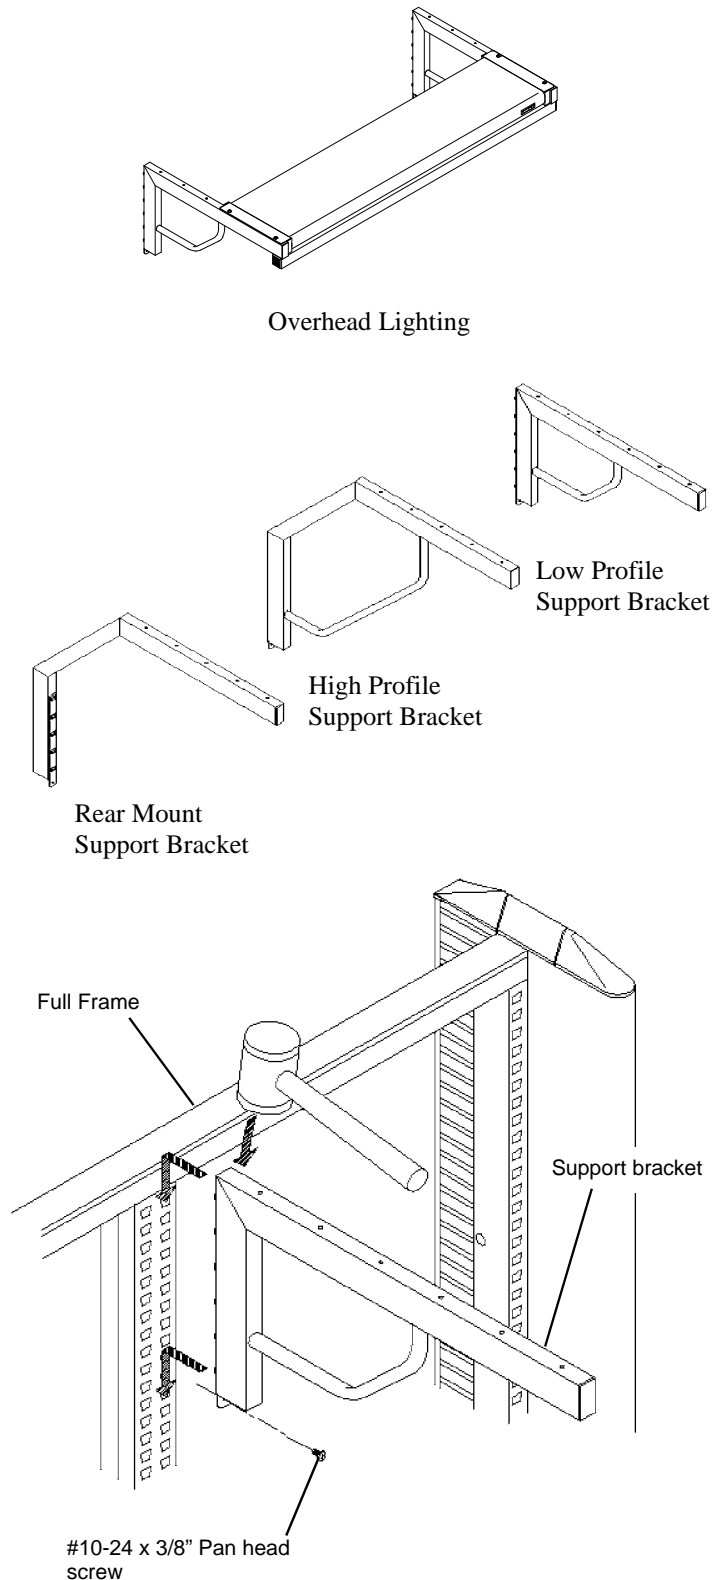

Figure 1
1. Select the position you prefer and hook on the first Support Bracket. Space the second Bracket based on the frame modules and light size ( 36", 48", etc.). Tap the Brackets down, making sure the hooks are seated into the frame. Secure the Brackets by driving the #10-24 x 3/8" screws (provided) into the hole at the bottom of each Bracket. See **Figure 1**.